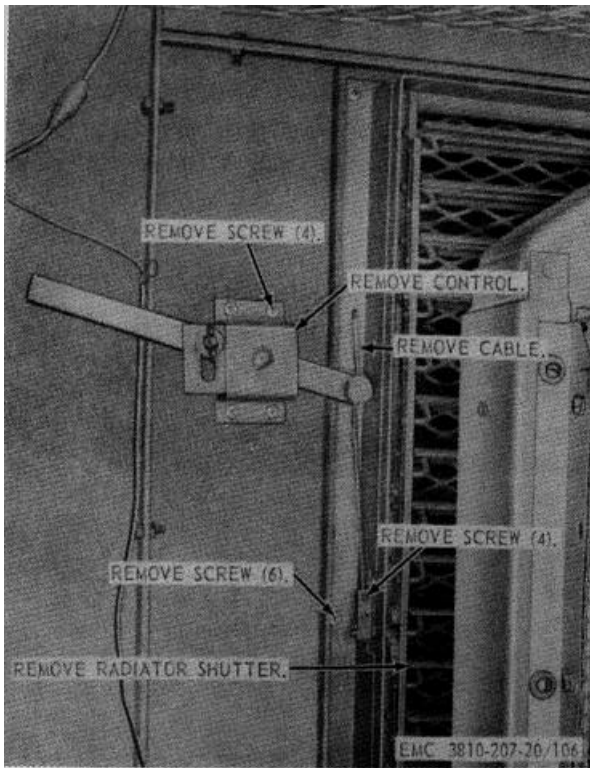

Figure 106. Radiator shutter, removal and installation.
a. *Removal.* Remove the radiator shutter as instructed on figure 106.
- (1) Clean the radiator shutter with an approved cleaning solution.
- (2) Inspect the radiator shutter for breaks, bends, and other damage. Repair or replace damaged radiator shutter and mounting hardware as necessary.
c. *Installation.* Install the radiator shutter as illustrated on figure 106.